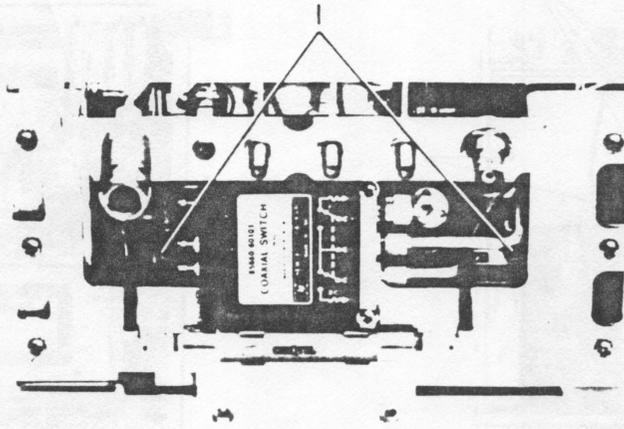

Figure 5. HP 85660A/B RF Attenuator Connections
8. Disconnect two semi-rigid attenuator cable (I), Figure 5, from A6A2 RF Attenuator, being careful to loosen both ends of each cable to prevent cable damage.
- e. Carefully align both A6A2 RF Attenuator SMA connectors with semi-rigid cables (I), Figure 5, and tighten cables using 6 in-lbs. of torque.
- j. Carefully align both A6A2 RF Attenuator SMA connectors with semi-rigid cable (I), Figure 5 and tighten cables using 6 in-lbs. or torque.